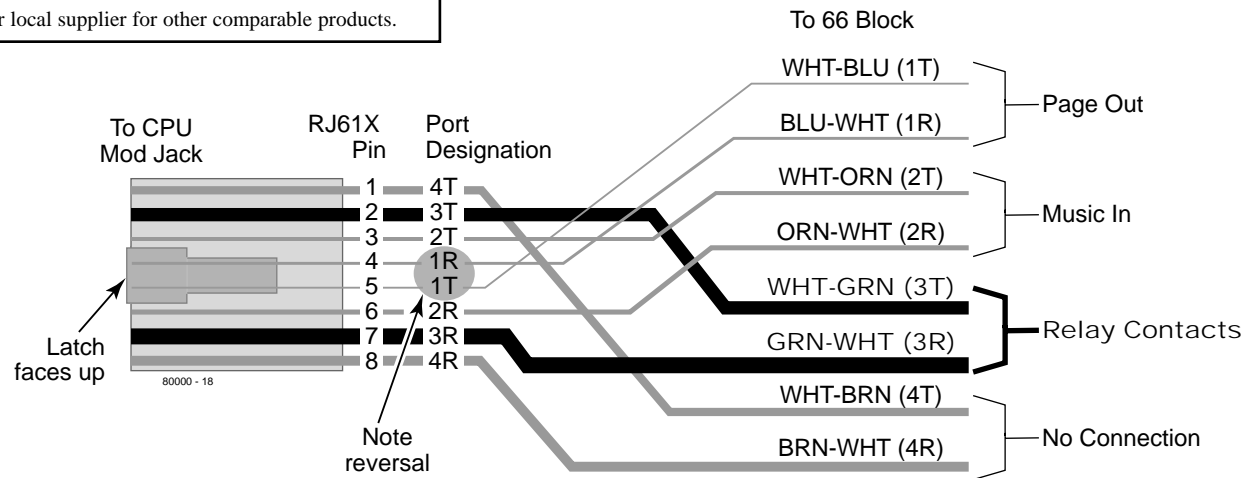

Figure 4-3 CONNECTING CONTROL RELAYS
Connecting to the CPRU Relays (Figure 4-3)
2. For the connector chosen, locate pins 3T and 3R (see Figure 4-3) and connect to the device the relays will control.